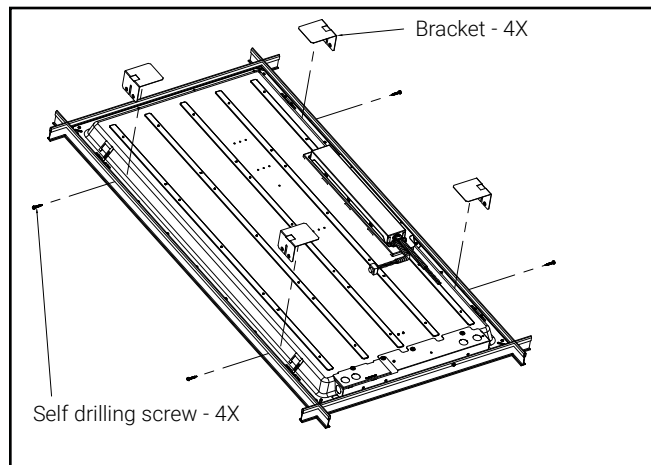

Figure 7.
1. Press brackets down towards fixture and install included self drilling screws (Fig. 7).